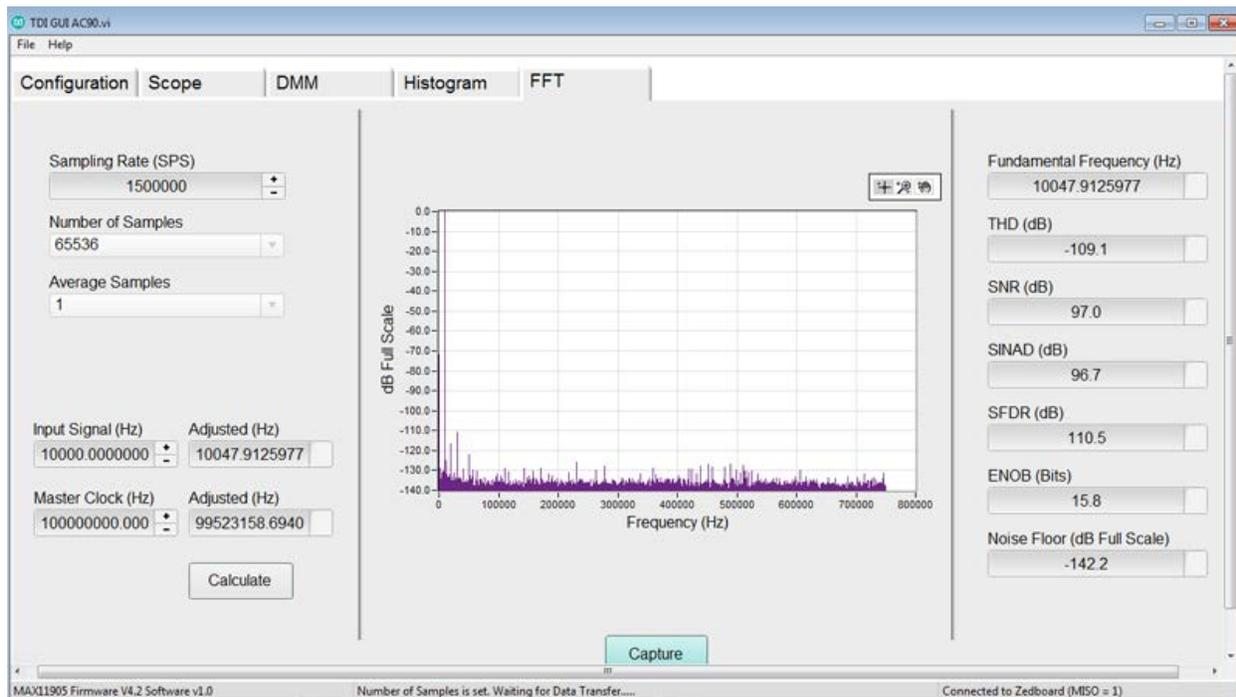

Figure 5. FFT of digital communication of ADC with isolators (high-speed case).
**Figure 5** shows the performance with two isolators and a return SCLK. The dynamic performance is closer to what is expected of the MAX11905.